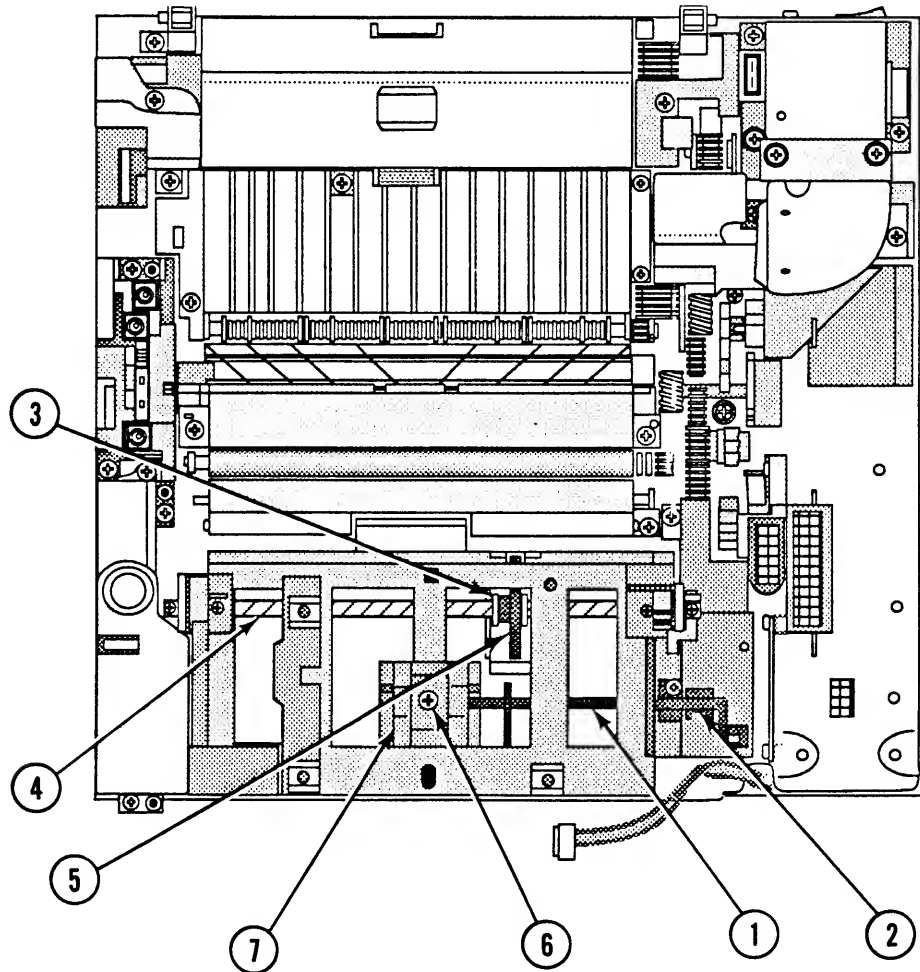

FIGURE 61
2. Carefully pull the paper sensing arm (Figure 61, #1) out of its clip on the cassette holder.
2. Place the arm in position. Note the position of the ends (Figure 61, #2) of the arm.
2. Remove the shutter arm C-ring (Figure 61, #3) located toward the front of the printer.
3. Remove the hook shaft (Figure 61, #4) by sliding it out of the cassette holder toward the rear of the printer. Remove the shutter arm (Figure 61, #5).
4. Remove the Phillips screw (Figure 61, #6) that secures the auxiliary guide (Figure 61, #7) to the cassette holder. Remove the auxiliary guide.